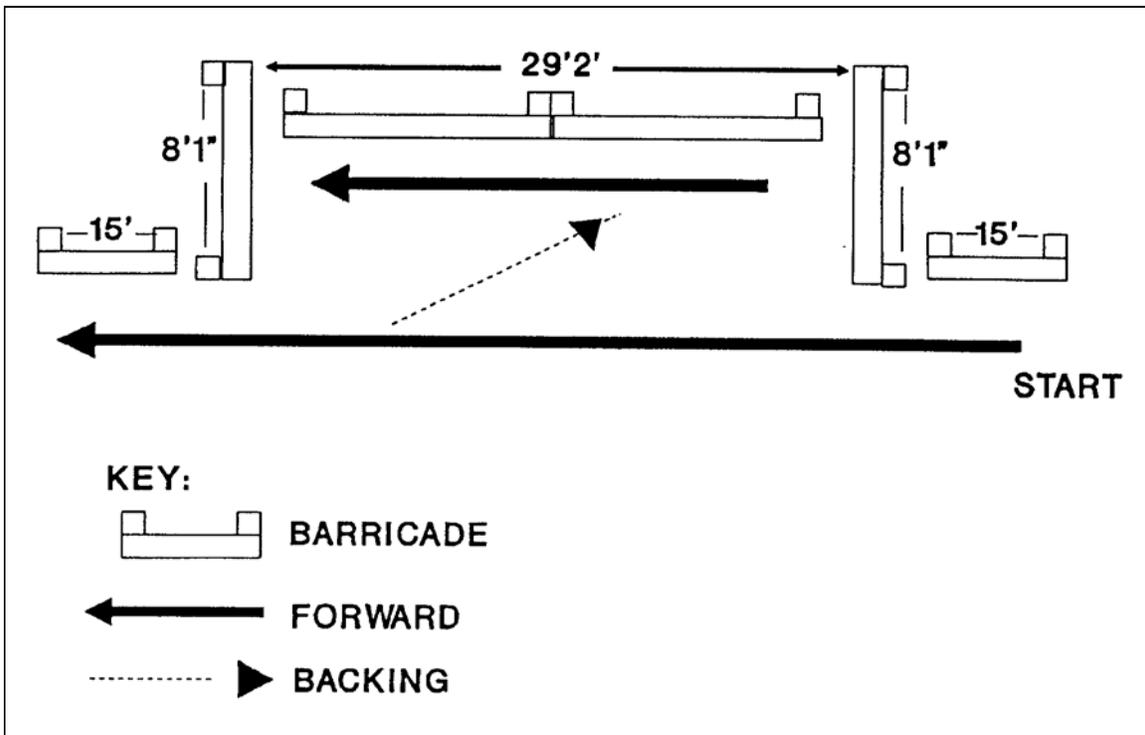

Figure 6-6. Light Vehicle Parallel Parking (Blind Side).
- Figure 6-6, light vehicle parallel parking (blind side).